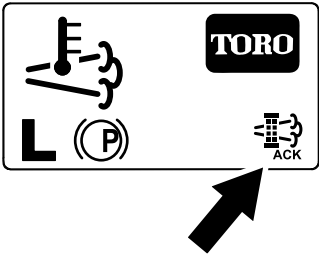

Figure 65
8. The InfoCenter displays the home screen and the regeneration acknowledge icon (Figure 65) appears in the lower right corner of the screen as the regeneration processes.